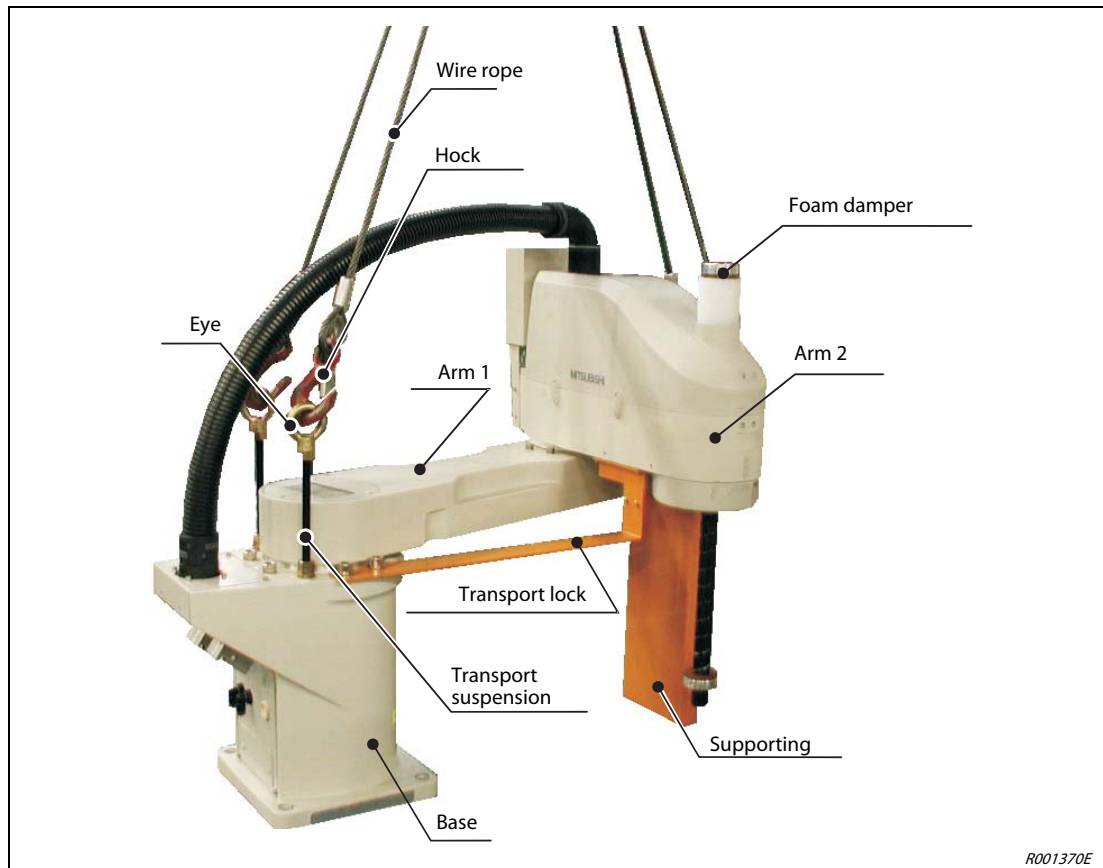

Fig. 3-8: Fix the transport suspensions
- **To avoid faults, the wire rope of the crane must be attached as shown in Fig. 3-8.**